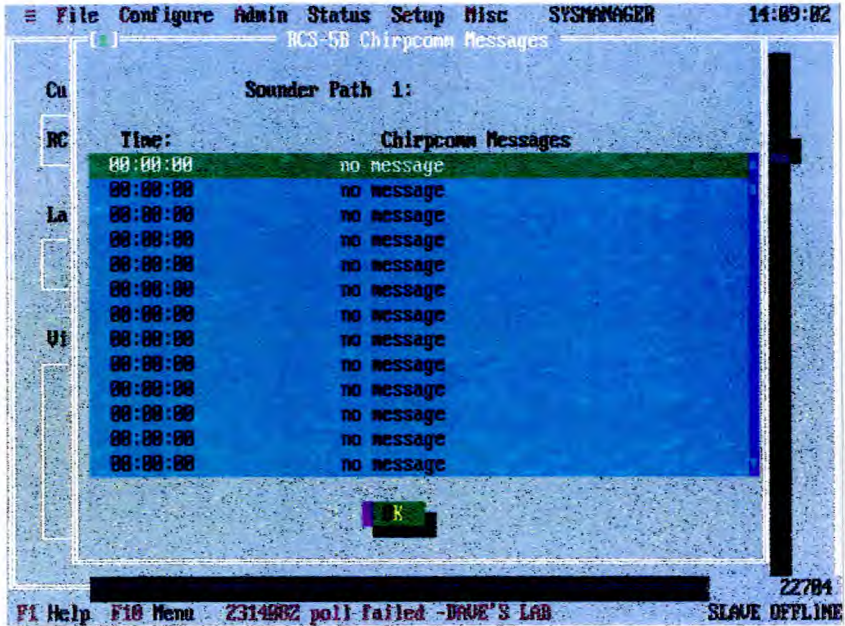

Fig 41
4.4 For CCOM MESSAGES, select CCOM MESSAGES, select the path number and select VIEW. A display similar to Fig 41 is obtained ("RCS-5B Chirpcomm messages"), showing the last 20 messages.
That the last 20 messages for specific receivers and paths can be retrieved by viewing the screen shown in Fig 41 (STATUS - VIEW - CCOM MESSAGES).